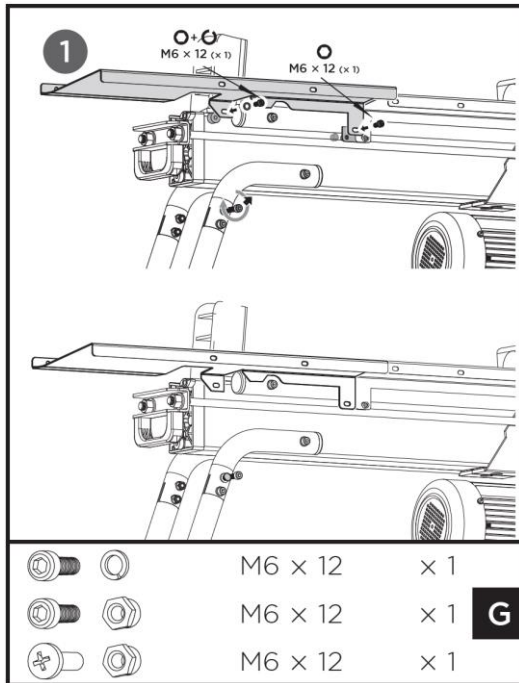

Fig. 7
3. Align the mounting holes of log tray 1 (f) with the holes on the rear side of the splitter. Insert one M6×12 socket head cap screw and spring washer (G) into the left mounting hole and one M6×12 socket head cap screw and locknut M6 (G) into the right mounting hole, then securely tighten both. See Fig. 7.
4. Loosen the cup head bolt and nut on the left side of the front supporting frame. Insert the open end of support strut 1 (c) onto the bolt and tighten the nut. Connect the upper end of support strut 1 (c) to log tray 1 (f) with an M6×12 cross recessed pan head screw and a locknut M6 (G), then tighten. See Fig. 7.